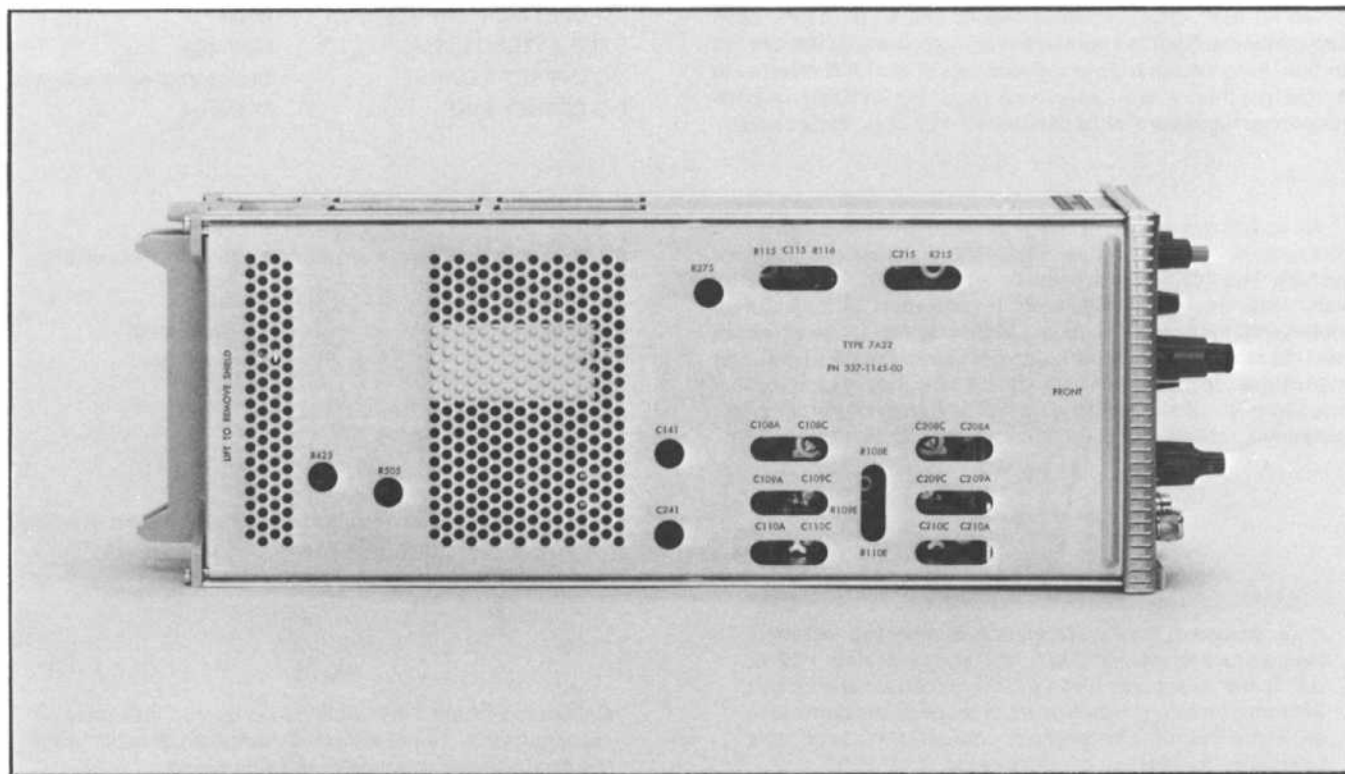

Fig. 5-1. Left side of the 7A22 showing adjustment locations.
- ADJUST—AC Step Atten Bal control, R505, (see Fig. 5-1) to position the trace within 1.5 div of graticule center.
- ADJUST—Variable Bal control, R425, (see Fig. 5-1) for no trace shift while rotating the VARIABLE control.
- ADJUST—Coarse DC Bal, R275, (see Fig. 5-1) to position the trace to graticule center.
- ADJUST—The +Gate Current Zero control, R115, (see Fig. 5-1), to position the trace to graticule center.
- ADJUST—The —Gate Current Zero control, R215, (see Fig. 5-1), to return the trace to graticule center.